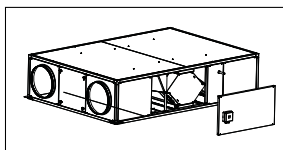

Fig. 5
7. Place the bypass in its housing again (fig.5), close the panel and start up the unit.